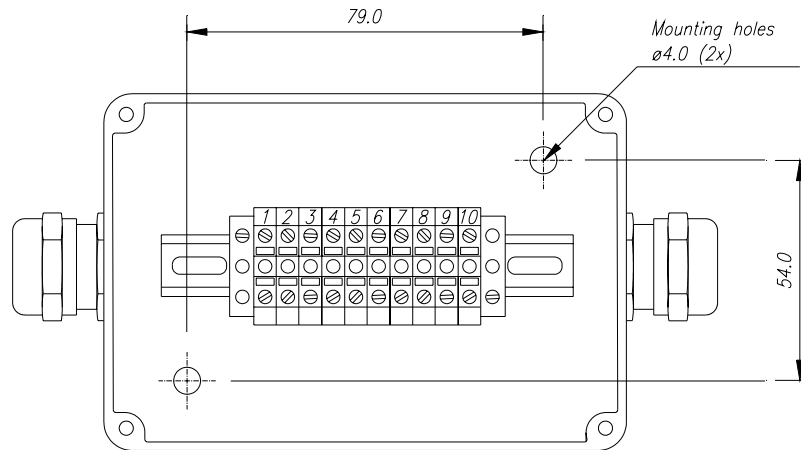

Figure 9 Connection box mounting
11. Mount the connection box (part no. M410-32) on a suitable location within the length of its 1.5-metre cable to the 15 pin MRU port on the Processing Unit, as shown in Figure 9. The two screws for mounting the connection box should be secured with washers or self-locking nuts.